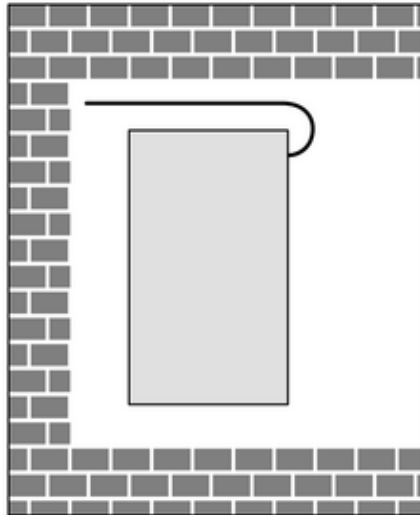

Figure 4: Installation in appliance box
- ⓘ Lay the antenna stretched out freely if possible(Figure 4).